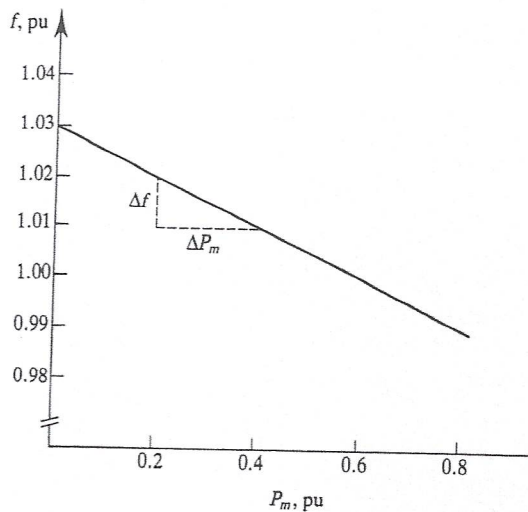

Fig. 9-7.
- 9.17** Assume that there are no changes occurring in the reference power setting of a turbine-governor system (that is, the system is operating in the steady state), and the frequency-power relationship of the turbine governor is that represented graphically in Fig. 9-7. Determine the regulation constant R .
In (9.26), we see that, with $\Delta P_{\text{ref}} = 0$, R is the negative of the slope of the f versus P_m curve, plotted in per-unit values. Hence, from Fig. 9-7,